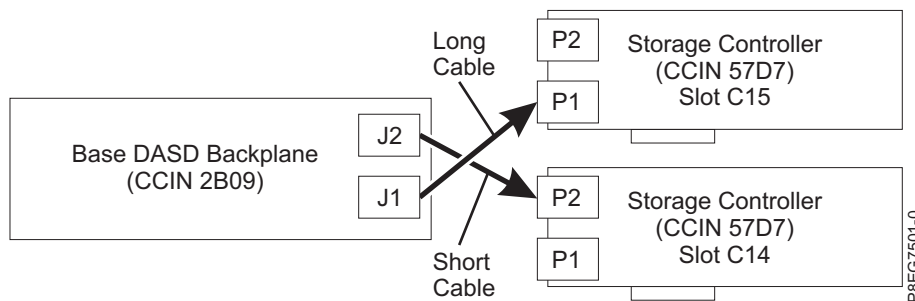

Figure 8. Reconnecting the SAS cable in a split-disk configuration
- The short SAS cable connects the upper disk drive backplane connector (J2) to the P2 connector on the adapter in slot P1-C14. The long SAS cable connects the lower disk drive backplane connector (J1) to the P1 connector on the adapter in slot P1-C15. See Figure 8.